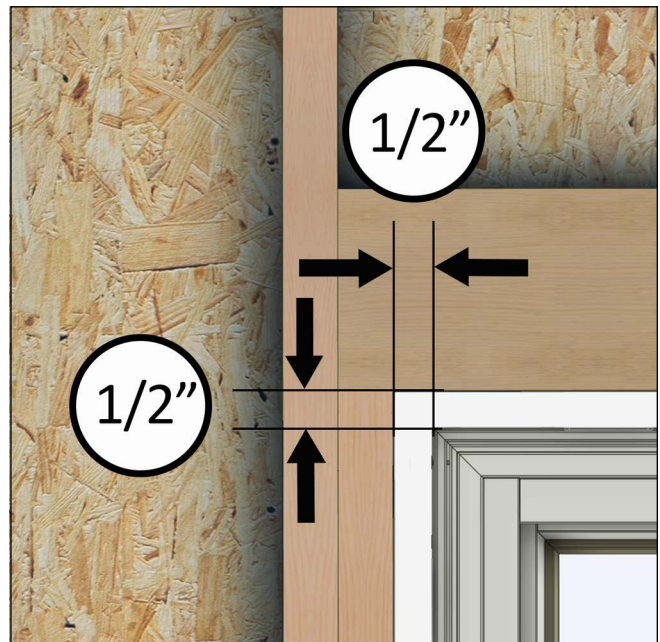

Figure 4
2. Rough openings (RO) should be 1/2" (13) higher and 1" (25) wider than the outside measurement of the frame. (1/2" (13) on each side of the frame). See Figure 4.